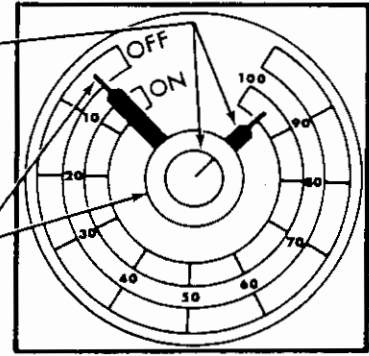

FIGURE 2
The upper head (1) only may be used to stitch one piece boxes without synchronization making approximately 290 stitches per minute. The proper timer setting for this situation is shown in Figure 2.
10. To stitch, hold both box halves against the targets (34) and press the foot switch (107). This will operate both the target solenoids (46) and the stitcher heads. Target solenoids will release the targets to permit the box halves to be pushed through after the first stitch is made. Spacing of stitches is determined by the speed at which the box is pushed through the machine. The stitching heads will continue to stitch as long as the foot switch is pressed and the side gauge limit switches (88) are actuated.